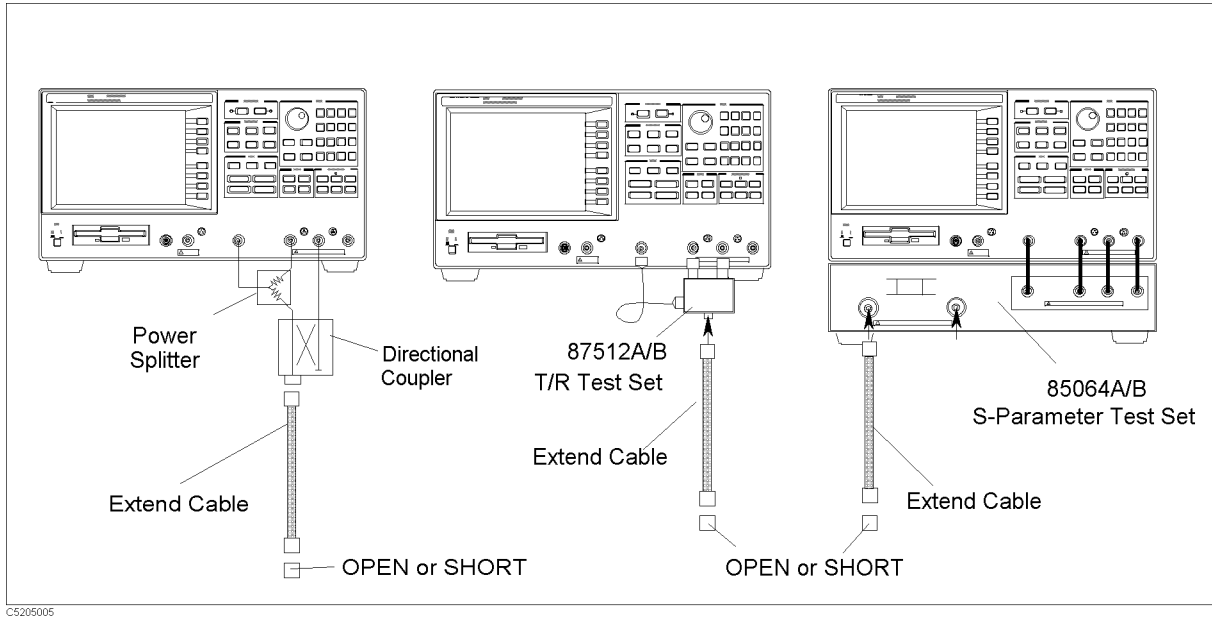

Figure 8-18. Cable Measurement Configuration (Reflection)
1. Connect the cable as shown in Figure 8-18.